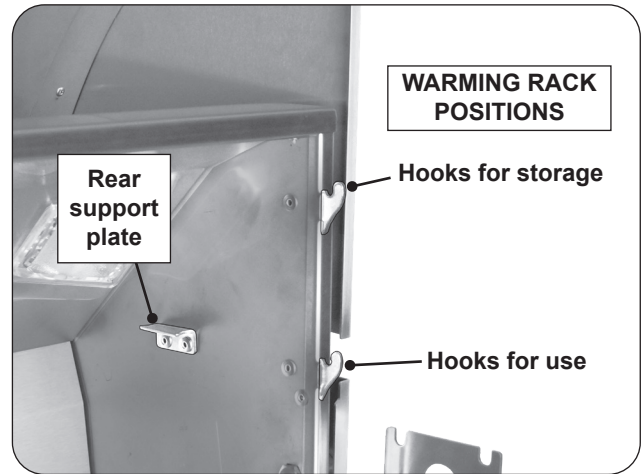

Fig. 34-1 Warming rack hooks
1. Locate the warming rack hooks and rear supports found on the upper portion of the grill oven (see Fig. 34-1).
Use the top hooks for storage (see Fig. 34-1 and Fig. 34-3).